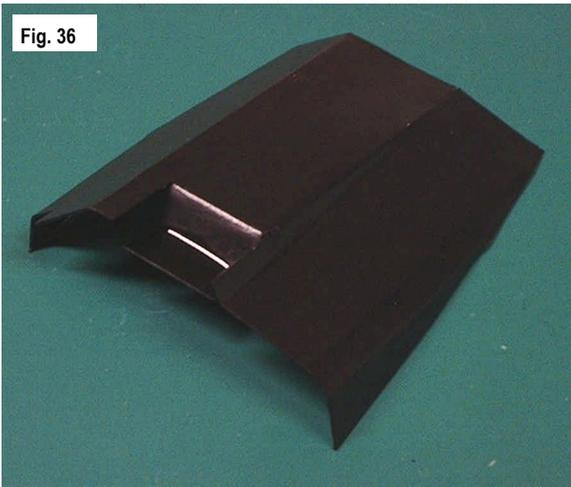

Fig. 36
□ **36.** Paint the top of the coaming as shown in Fig. 36.